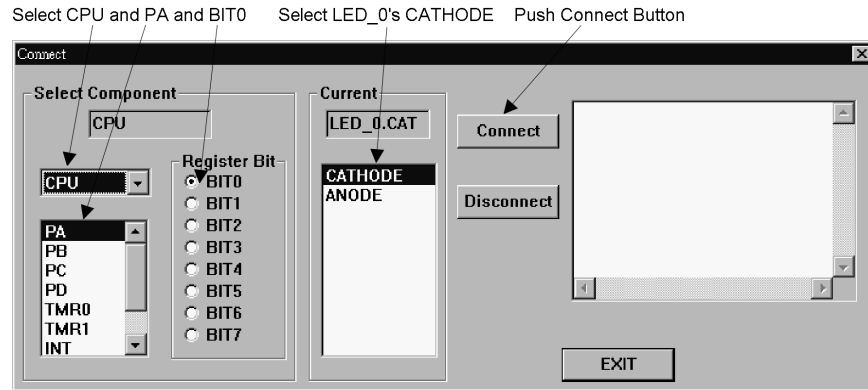

Fig 15-18
- Click the mouse right button on LED\_0 to display the connect dialog box as shown as Fig 15-18